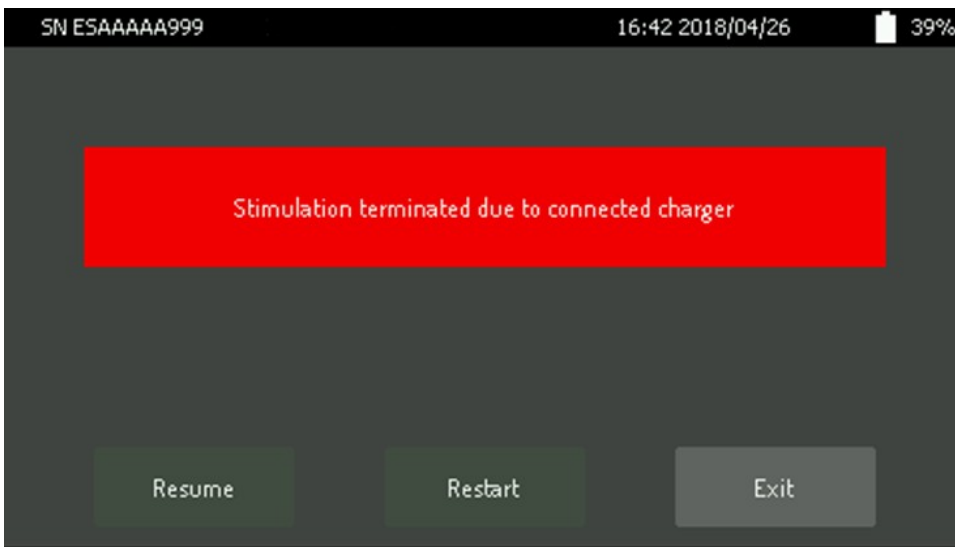

Figure 74. Stimulation terminated due to connected charger.
- user connects a power unit to the device (Figure 74),